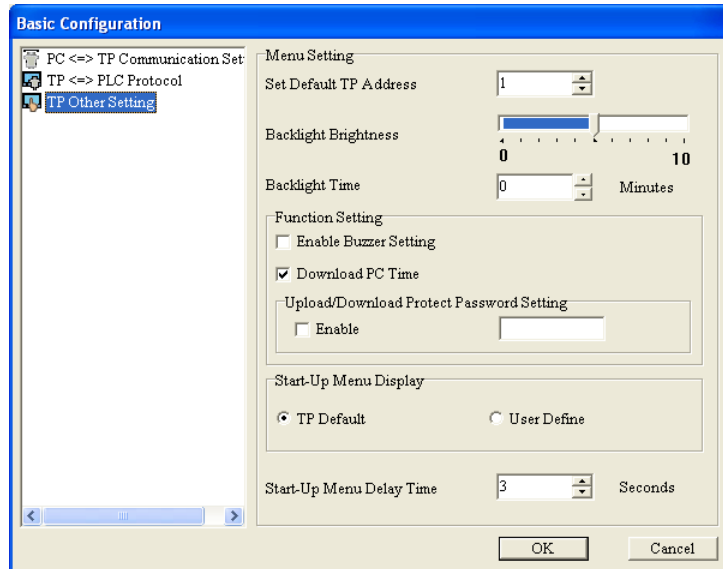

Figure 3-14 TP Other Setting
- TP Other Setting:** Users can set the hardware of the TP series text panel used, such as the station address of the TP series text panel used, and the brightness of the backlight that illuminates the screen of the TP series text panel used. The functions supported vary with the model used. If the users select a value in the **Backlight Setting** box, the backlight that illuminates the screen of the TP series text panel used will last for the time set. If the value selected in the **Backlight Setting** box is 0, a backlight will always illuminate the screen of the TP series text panel used. If the **Download PC Time** checkbox is selected, the time of the clock in the computer will be downloaded to the real-time clock in the TP series text panel used. If the users select the **Enable** checkbox in the **Upload/Download Protect Password Setting** section, and type a password, they are asked to type the password when they upload/download the project created. In the **Start-Up Menu Display** section, the users can select the **TP Default** checkbox, or the **User Define** checkbox. The users can set the time for which the boot screen selected lasts. Please see Figure 3-14.